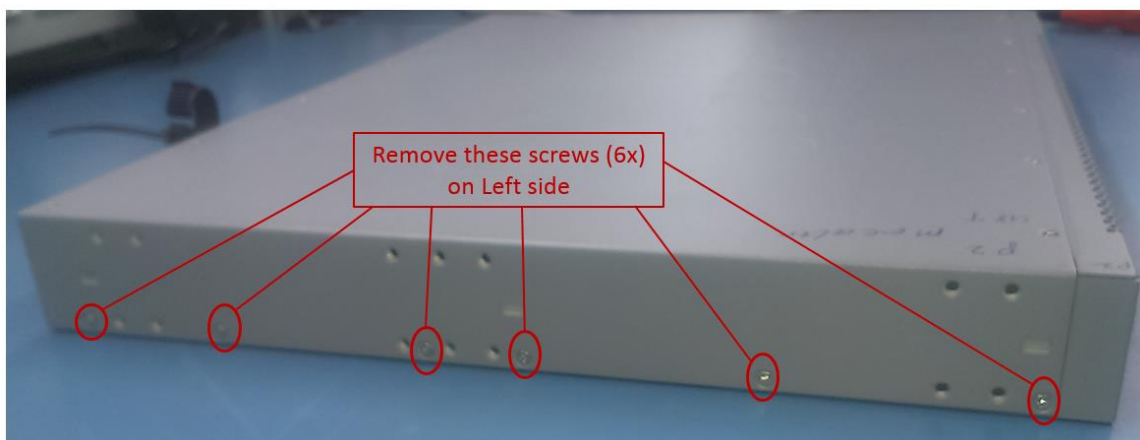

Figure 3-3: Left side screws
4. Remove six(6x) screws from left side of chassis (Figure 3-3)